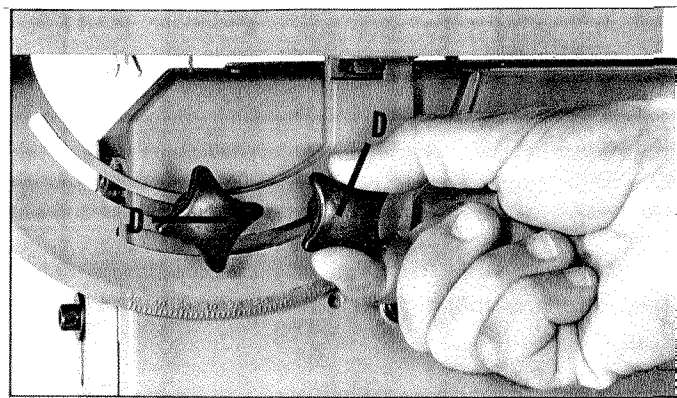

Fig. 3
2. Fasten the table to the frame using the two table tilting lock knobs (D) Fig. 3.